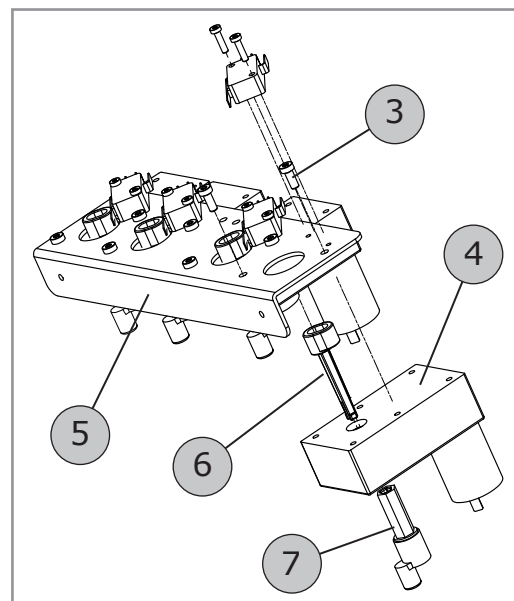

Figure 34
5. Lift out the motor bridge (5, figure 34) from the right side of the machine. Remove the cabling to the dispenser motor.
6. Remove the dispenser motor (4, figure 34) by loosening its screws (3) from the underside of the motor bridge.
7. Note that the crank (7) and its cam lobe (6) are keyed, that is to say they can only be joined together in a specific position.